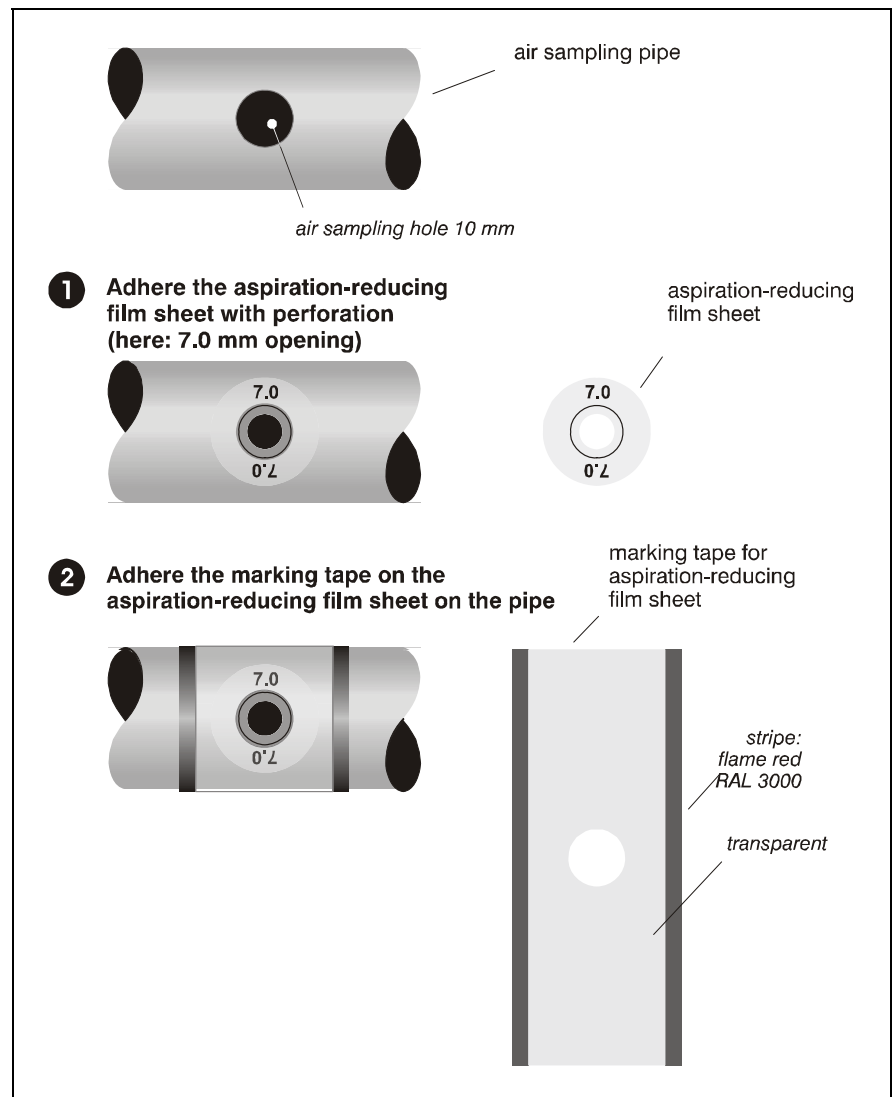

Fig. 6.3: Attaching the aspiration-reducing film sheet
5. Stick the aspiration-reducing film sheet over the hole (see fig. 6.3, ①).
6. Prevent the film sheet from coming loose by sticking marking tape over it (see fig. 6.3, ②).